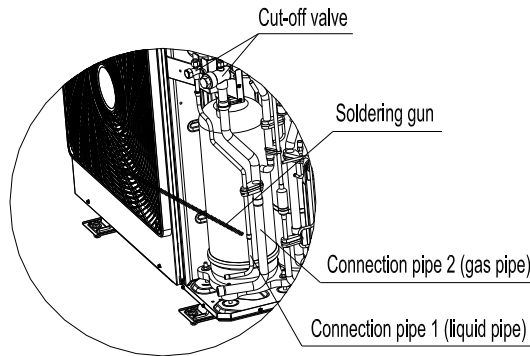
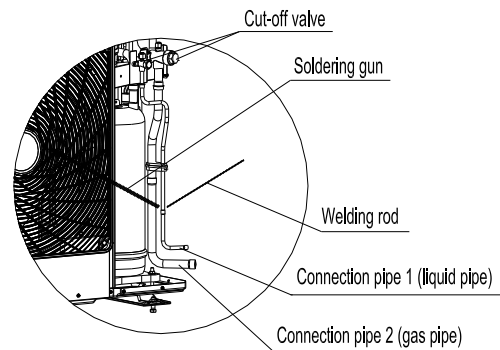

Fig. 4.3.8
Fig.4.3.9
- 2) If connection pipe is connected at the side as shown in Fig.4.3.8 and Fig.4.3.9, open the front side plate, rear side plate and connection board. Then open the soundproof cotton. Use a soldering gun to unsolder connection pipe 1 and connection pipe 2. Rotate them to a proper angle and install them to their respective position. Seal the apertures with welding rod. First weld connection pipe 1 (liquid pipe) and then weld connection pipe 2 (gas pipe).